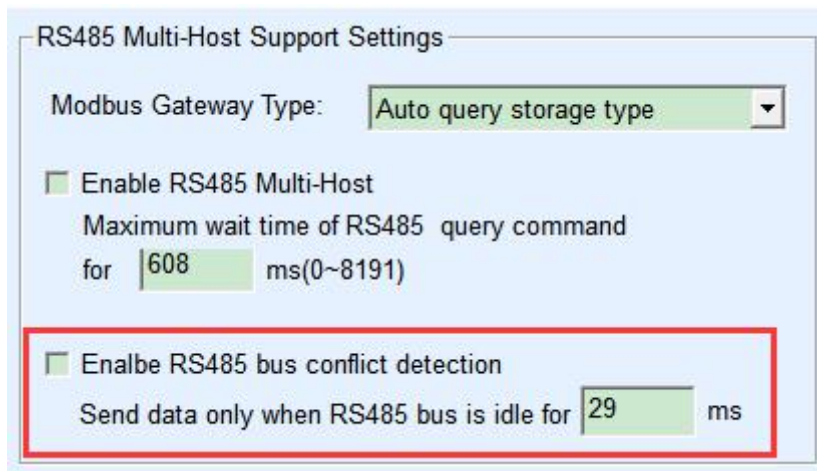

Figure 30 RS485 anti-collision idle time
1. Figure 30 shows the "RS485 bus anti-collision time". Generally, it can be set to twice the "Packet Interval" in the lower right corner of the parameter configuration interface, but the minimum should not be less than 20.
At this time, it should be noted that it is necessary to remove the two checkmarks shown in Figure 30 as "RS485 bus anti-collision time" and Figure 29 as "RS485 command response timeout time". Otherwise, the above forwarding function cannot be realized. Another application method is: Although the serial port server is connected to multiple network port devices as a Client, the RTU device is not the master station, and the network port device still sends it first, and the RTU device responds (as a slave station). At this time, the "RS485 bus anti-collision time" and "RS485 command response timeout time" still need to be checked, so that multiple hosts can access one RTU device at the same time.